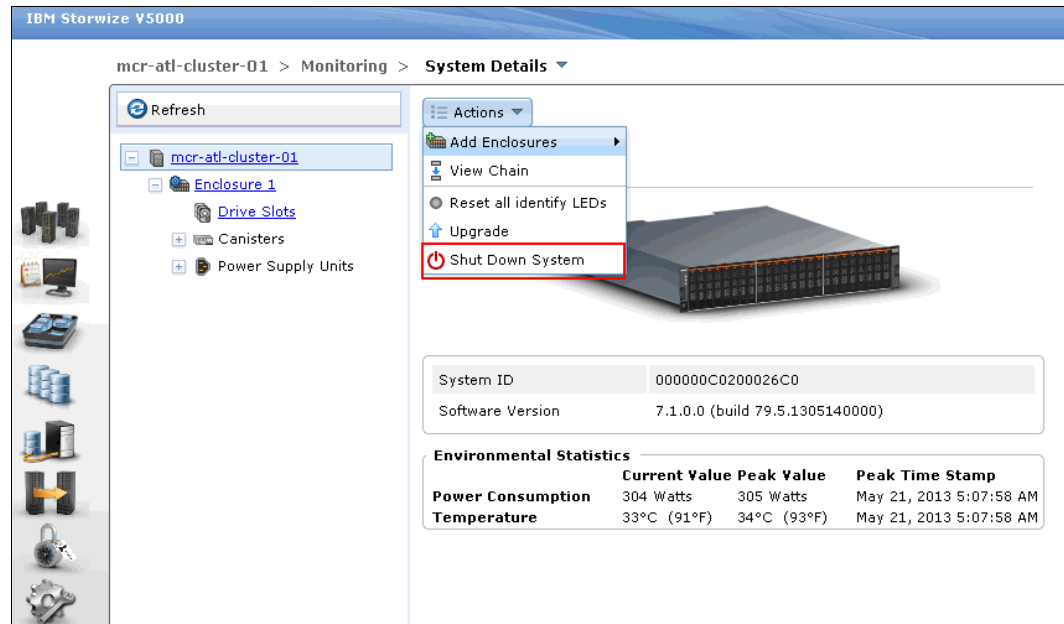

Figure 12-75 Power Down System option
2. Select the root level of the system detail tree, click **Actions**, and then select **Shut Down System**, as shown in Figure 12-75.
The following process can be used as an alternative to steps 1 and 2, as shown in Figure 12-75: